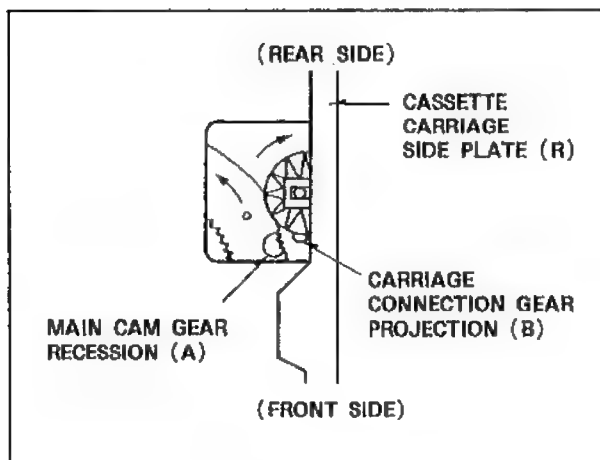

Fig.M37
1. Install the Sub Cam Gear on to shaft (J) so that the chassis hole aligns with hole in the Sub Cam Gear.
2. Rotate the Holder Connection Gear to position of arrow mark as shown in Fig.M37.
3. Install the Main Cam Gear onto shaft (K) so that the hole of the Main Cam Gear aligns with the hole in the Sub Cam Gear. Also insert the boss of the Take-up Tension Regulator Arm into the slot on the Main Cam Gear.